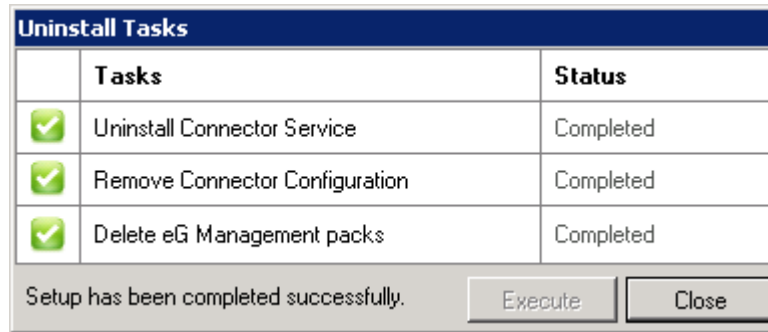

Figure 4.3: Completion of all uninstallation tasks
- Click on the **Execute** button in Figure 4.2 to begin performing the **Tasks** listed. The uninstallation process will perform each task automatically and update the **Status** column of Figure 4.2 accordingly. When all tasks are completed, the **Status** column will indicate the same (see Figure 4.3).
5. Click the **Close** button in Figure 4.3 to close the **Uninstall Tasks** window.